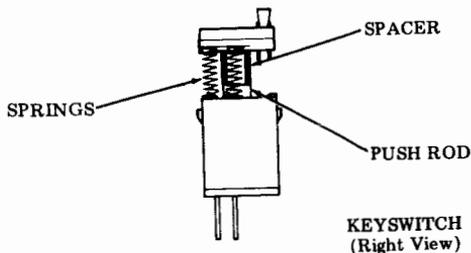

Fig. 17—Blocking Spacer Reassembly
- (c) In reassembly, insert spacer from the left and observe that the spacer encapsulates the keyswitch push rod and that the front part of the spacer is located between the keyswitch springs (Fig. 17).